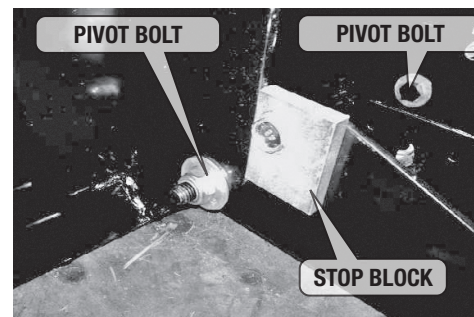

fig. 3
- 2 Install the pre-assembled hardware such that the spacer is on the inside of the plow brackets with flat washers under the bolt head and under the nut as shown in figure 3.